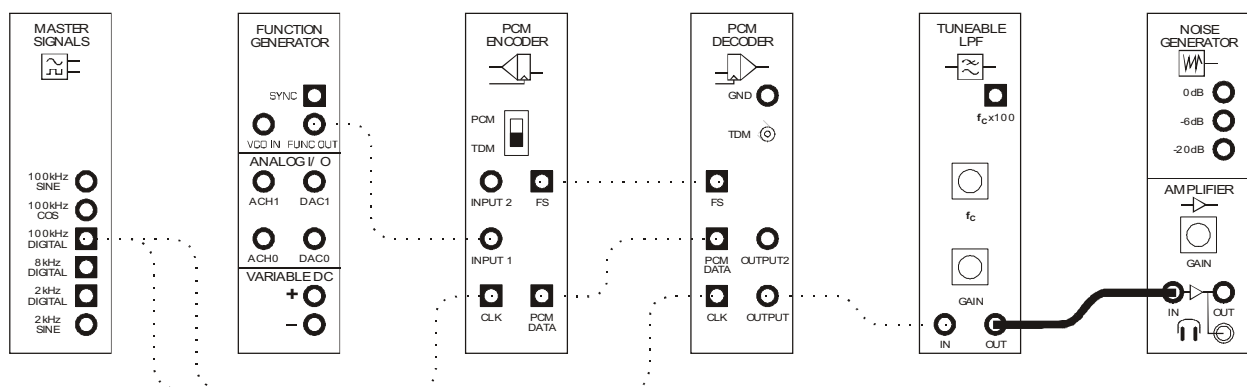

Figure 12
53. Add the Amplifier module to the set-up as shown in Figure 12 below leaving the scope's connections as they are.